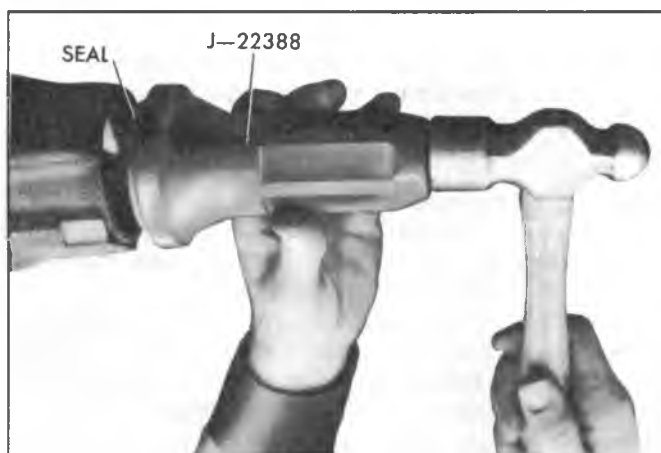

Fig. 16A-Installing Drive Pinion Oil Seal
4. Coat O.D. of pinion seal with sealing compound. Install seal by using Installer J-22388. See Figure 16A. Note that seal does not install flush but it protrudes about .150" out from the housing.